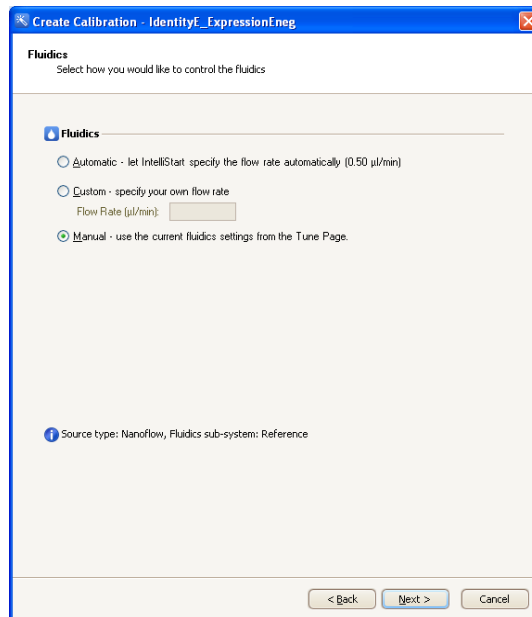

Figure 82 - Fluidics control
13. Select the **Manual** check box to define how the fluidics will be controlled (Figure 82).